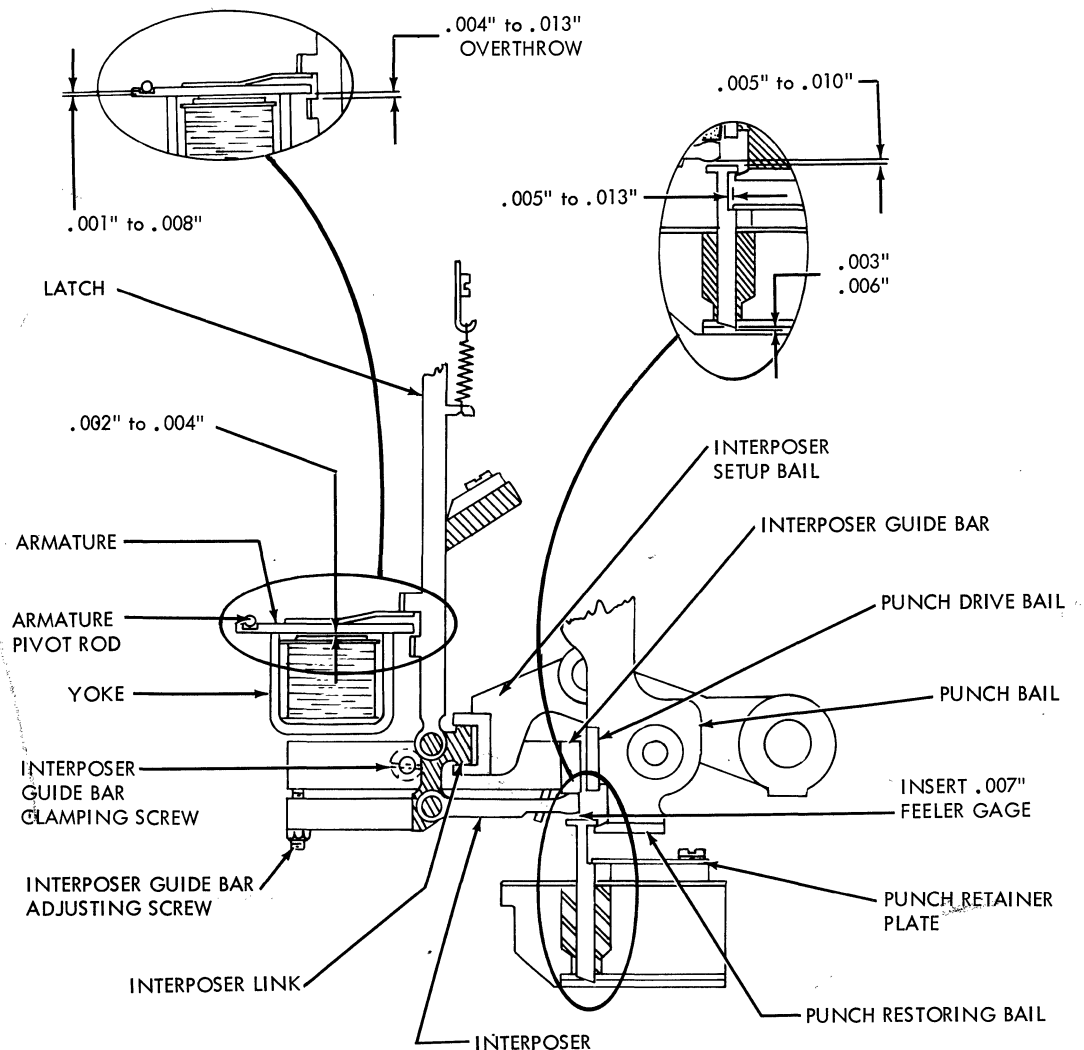

Figure 4-15. Punch Unit Adjustments
Magnet Bar Assembly Adjustment (Figure 4-15)
3. Check for .004" to .013" clearance between the lower side of the armature and the latch at both the column 1 and column 80 ends of the unit (Figure 4-15).
- b. Loosen magnet unit adjusting lock nuts and adjust screws for .004" to .013" clearance between armature and latch (Figure 4-15). The magnet unit locating screws hold the magnet unit against the adjusting screws.
3. Carefully place drive unit on magnet unit so that all 80 interposer links fit into the interposer setup bail (Figure 4-15).
- a. Check for .004" to .013" latch overthrow (Figure 4-15).
- b. Check for .005" to .010" interposer to punch clearance (Figure 4-15).
- a. With the punch magnet de-energized, insert a .007" feeler gage between punch and interposer (Figure 4-15).
- a. Loosen interposer guide bar clamping screws slightly (Figure 4-15).
3. Remove latch spring in position to be removed (Figure 4-15).
3. Adjust retainer plate for .005" to .013" clearance between plate and punches (Figure 4-15).